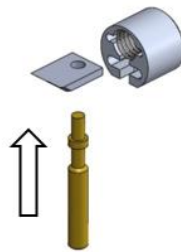

Fig 2
2. Tighten the thumb screw to the stop to securely attach the peeler to the pipe. Only tighten the screw far enough to eliminate any rocking or play of the peeler on the pipe. DO NOT overtighten! (Figure 2)
3. Insert the Lever (D) into the hole in the Blade (B) (Fig 2).